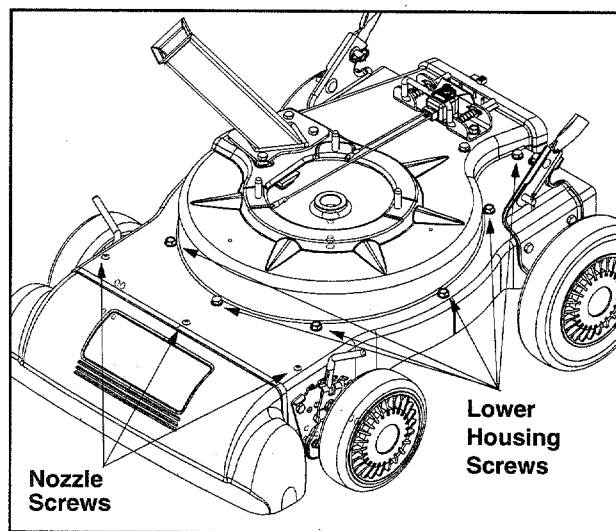

Figure 16
4. Remove the three screws on the upper housing that secure the nozzle cover and the nine screws that secure the lower housing to the upper housing. See Figure 16.